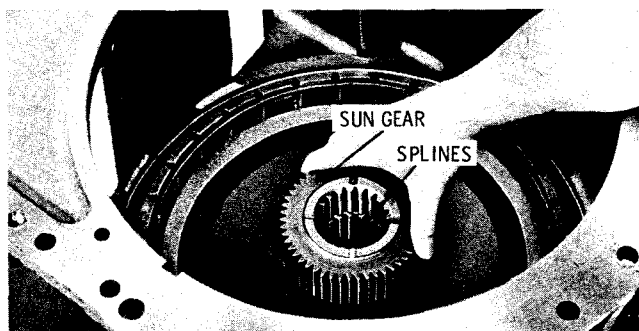

Fig. 7-5. Installing intermediate-range sun gear
(5) Install the intermediate-range sun gear (fig. 7-5). Aline the sun gear splines with high-range clutch drum splines.